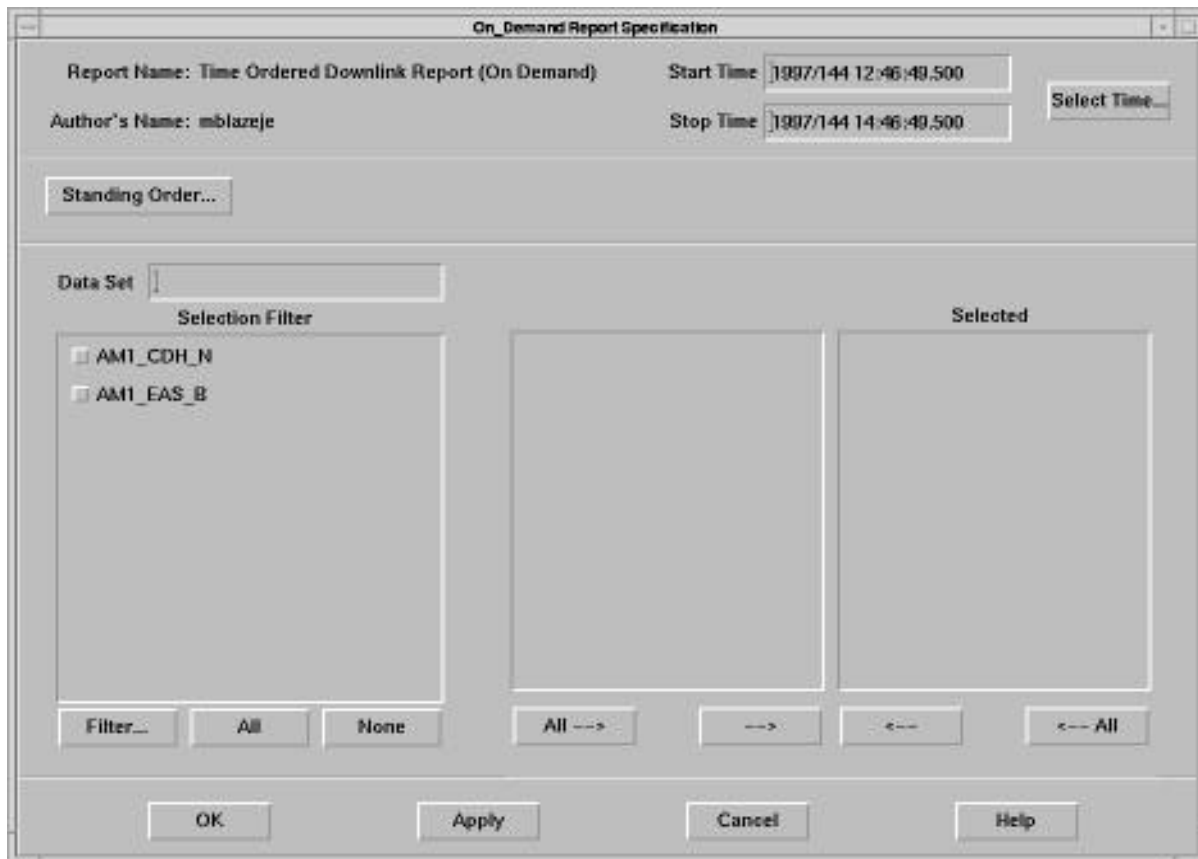

Figure 7.12.2-2. On Demand Report Specification Window for an Analysis Report
If you selected an Analysis report template prompting you to select parameters' move the parameters to be included in the report into the Selected box as illustrated in Figure 7.12.2-2, or filter parameters as described in the following text.
- f. To create parameter filters, click **Filter....** The Selection Filter dialog box opens (see Figure 7.12.2-3). Select a spacecraft, instrument, and sample type. Click **Select** to add the filter to the list of selected filters. Click **OK** to close the Selection Filter dialog box and select parameters.